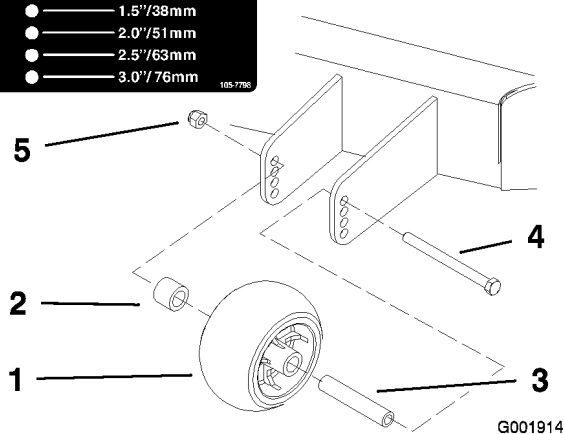
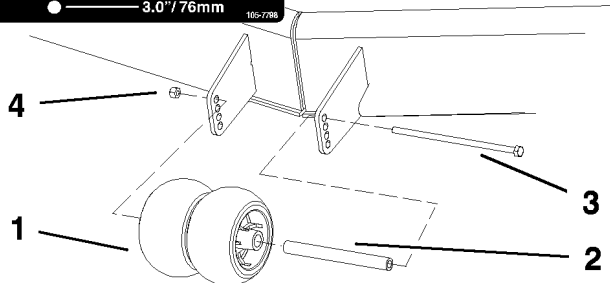

Figure 20
Figure 21
3. After adjusting the height-of-cut, adjust the rollers by removing the flange nut, bushing, spacer, and bolt (Figure 20 , Figure 21 and Figure 50).
- Note:** The two middle rollers will not have a spacer (Figure 21).
5. Install the flange nut bushing, spacer, and bolt. Torque to 40-45 ft-lb (54-61 N•m) (Figure 20 , Figure 21 and Figure 50).